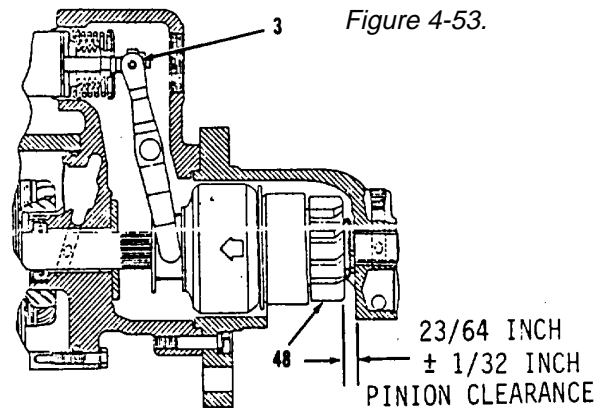

Figure 4-54.
3. Momentarily flash jumper wire "A" from ground to MTR terminal. Drive (48, Figure 4-54) will shift into cranking position.
4. Press drive (48) in direction of arrow to take up slack.
6. Adjust lock nut (3) until correct clearance.